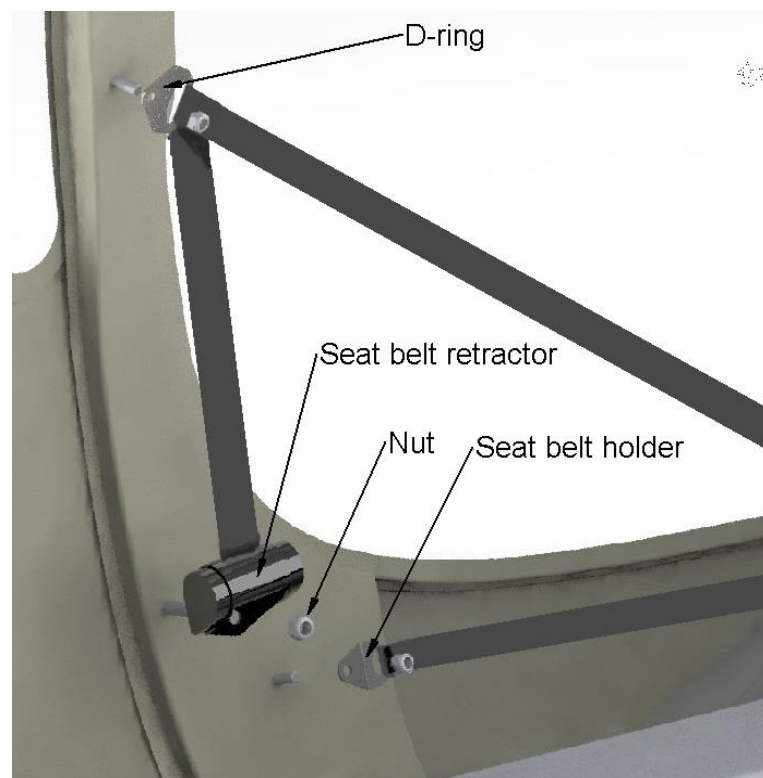

Fig. 25-00-2
B. Safety Belt Removal and Installation (Fig. 25-00-2)